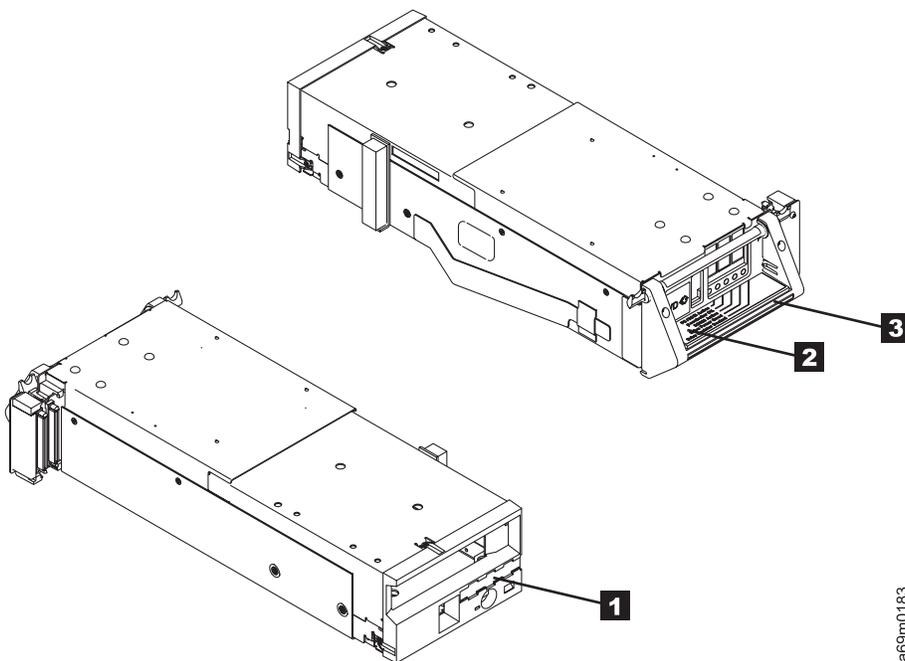

Figure 125. Drive Canister
4. While holding up the locking lever **2**, grasp the drive canister handle **3**. Firmly pull back on the handle enough to disengage the drive canister (see Figure 125).